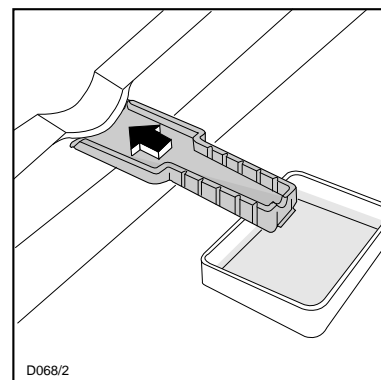

Fig. 18
- turn the thermostat dial to the «OFF» position (O) or disconnect the appliance from the mains.
- Leave the door open and insert the ice scraper under the channel in the centre of the lower part of the appliance; place a low-sided container beneath the scraper to collect the water (Fig. 18).